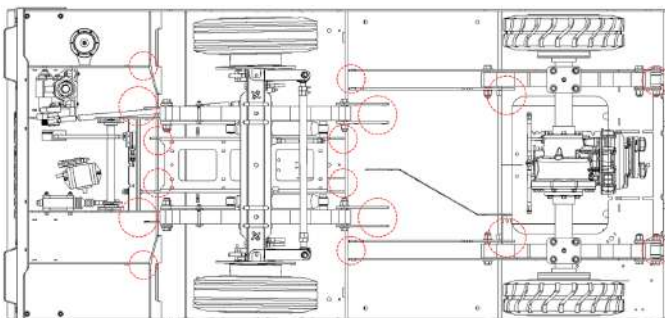

Figure 39. Weld Zones.
- Weld zones (4) (see Figure 39, not all welds are shown).